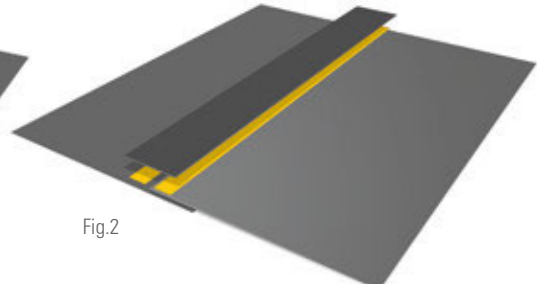

Fig.2
4. Apply the Plantex® Performance Tape to both sides of the join (Fig.2).
5. Apply the 30cm stretch centred across both tapes. (Fig. 2).